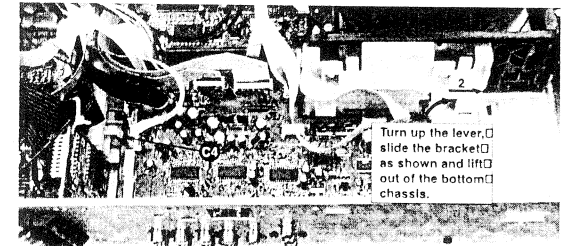

Figure 5
- 3) Loosen bracket (pos 254) by turning a catch, sliding towards the outside and lifting it upwards as per figure 5.
- 5) Uncatch C4 to remove the AV board (pos 1104) from the Bottom & Rear Plate assembly (pos 251 + 227) as per figure 5.
- 2) Loosen bracket (pos 254) by turning a catch, sliding towards the outside and lifting it upwards as per figure 5.